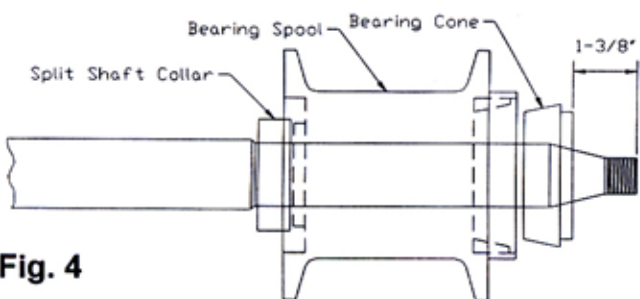

Fig. 4
6) Loosen the set screw in the split shaft collar and slide the collar onto the drive shaft as far as it will go. Leave it loose at this time. See Fig. 4
7) Slide the spool onto the shaft such that the brass bushing end goes toward the front of the drive shaft (front of car when finally installed). See Fig. 4
Slide it on only to a distance of approximately 1-3/8" as necessary to be able to install the modified key. See Fig. 4. It is normal for the roller bearing cone end to be tighter on the shaft than the brass sleeve end. The pinion gear **MUST pull** the cone bearing into final position for proper fit.